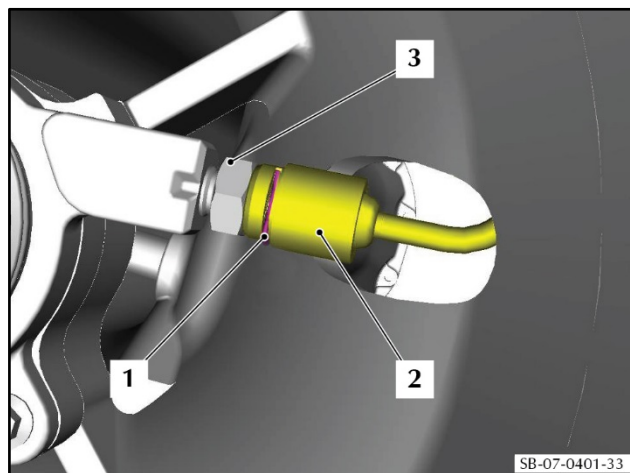

Figure 37
69. Connect the tube assembly (2) to the concentric slave cylinder (3) (refer to Figure 37).
70. Install a new clip (1) to attach the tube assembly (2) to the concentric slave cylinder (3).